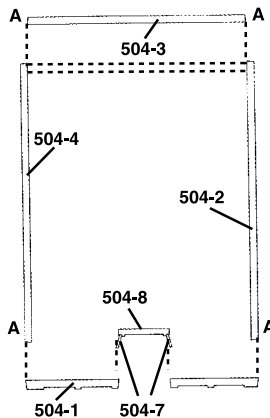
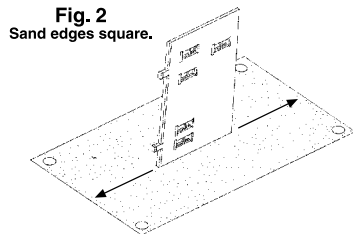

Fig. 1
Fig. 2
1. The edges of all parts are angled (draft angle) so they may be removed from the mold. It is necessary to remove this angle from the front edges of the side walls 504-2 and 504-4 and both edges of the rear wall 504-3 allowing flush fit with adjoining walls. Edges to be squared are marked "A" (Fig. 1). To square the edges, thumbtack a piece of 150 grit sandpaper to a board and push and pull the part back and forth evenly on the sandpaper until they are square (Fig. 2).
2. Cut two entry door side panels 504-7 from white styrene stock (.156" x .02"). Make them the same height as the entry door casting 504-8. Glue side panels to entry door as shown (Fig. 1 and 4). Now glue fronts of side panels to back of entry opening on building front 504-1.